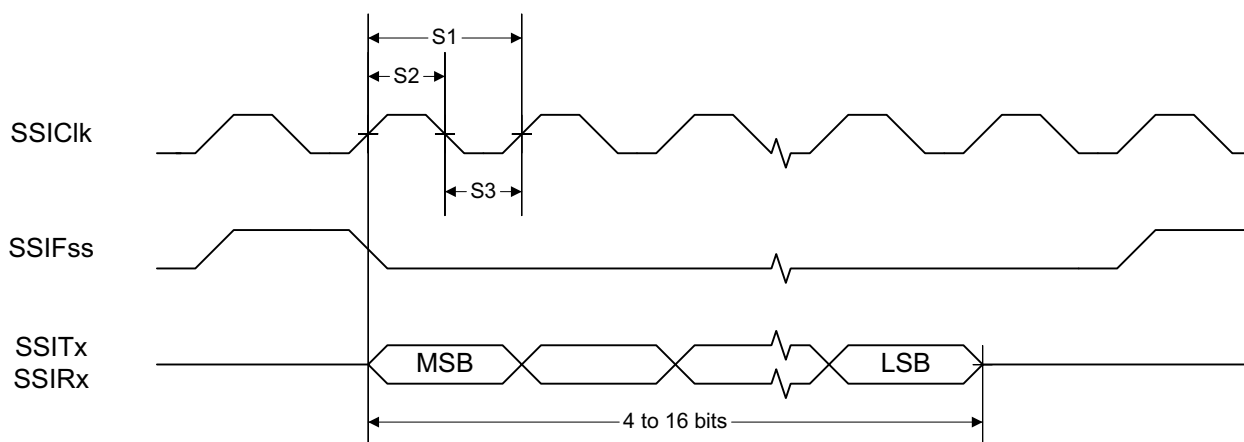
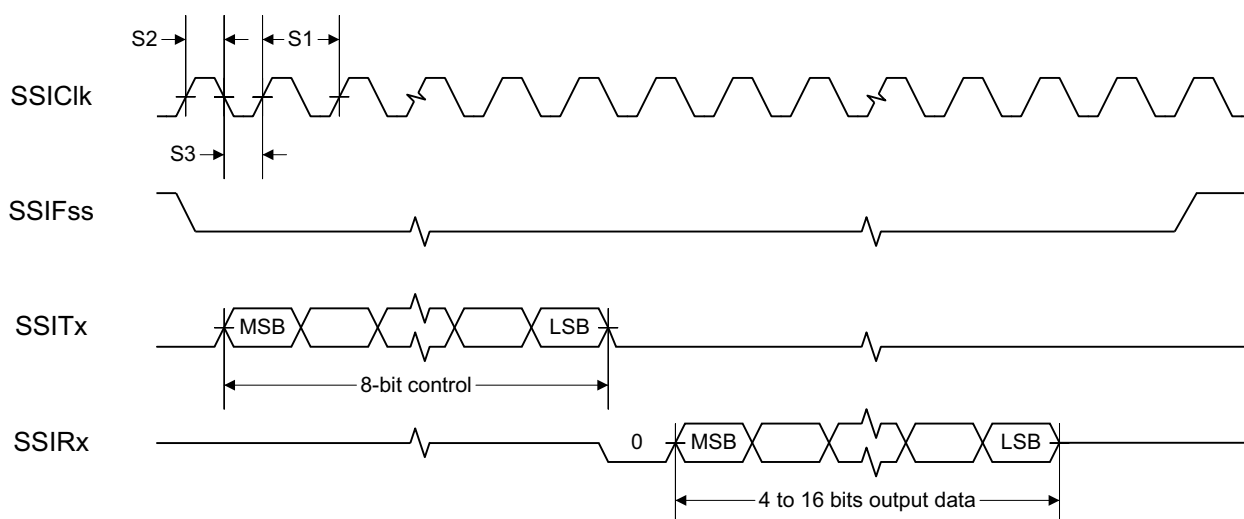
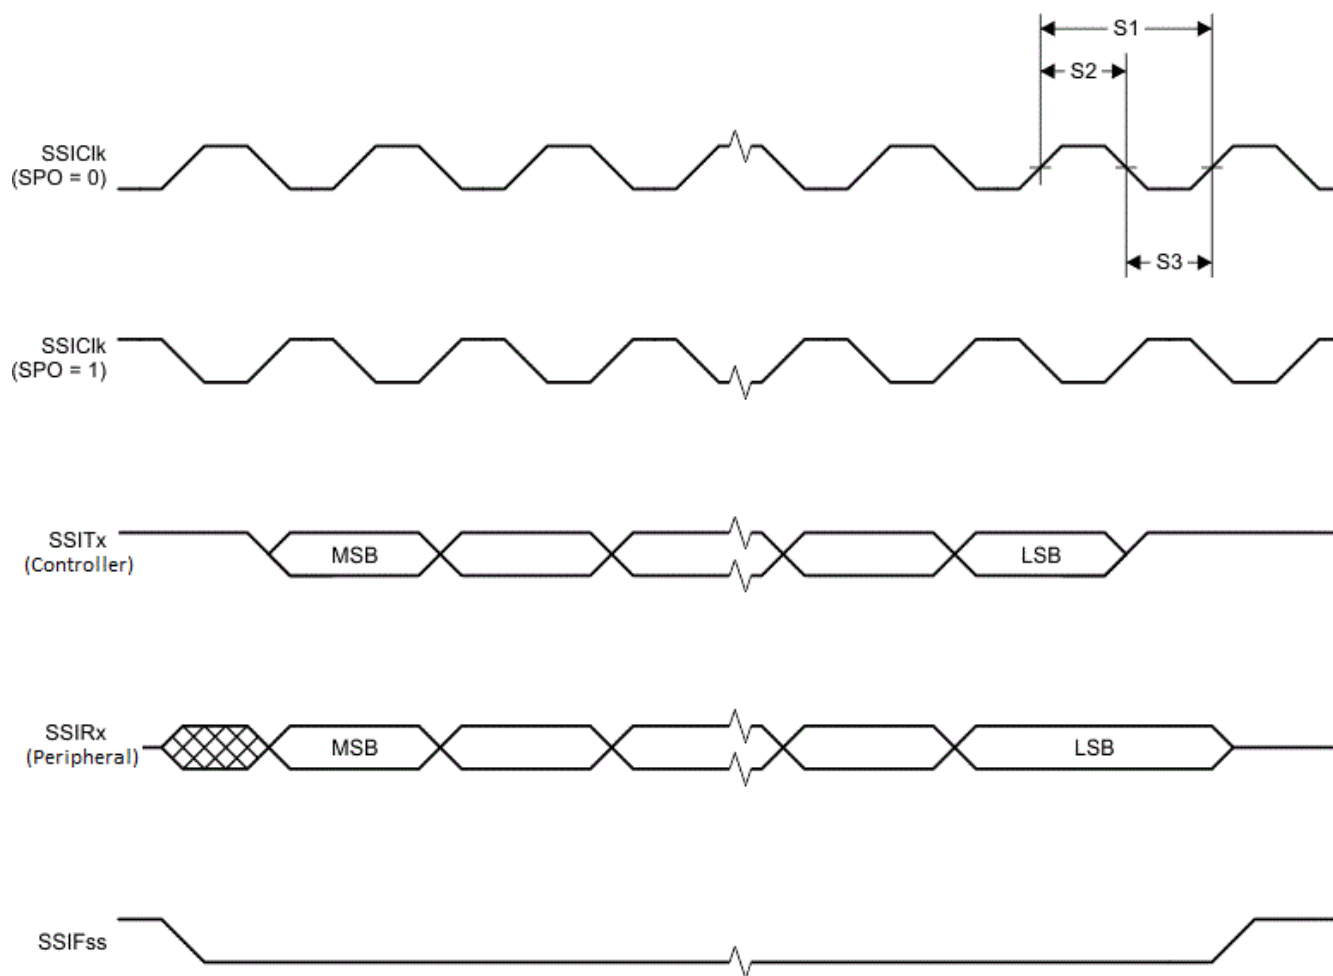

图 8-1. SSI Timing for TI Frame Format (FRF = 01), Single Transfer Timing Measurement
图 8-2. SSI Timing for MICROWIRE Frame Format (FRF = 10), Single Transfer
图 8-3. SSI Timing for SPI Frame Format (FRF = 00), With SPH = 1
(1) Refer to SSI timing diagrams Figure 8-1, Figure 8-2, and Figure 8-3.
(2) When using the TI-provided Power driver, the SSI system clock is always 48 MHz.